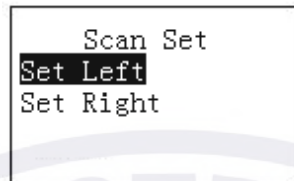

Figure 3-4
a) Select Set and then click **【ENTER】**, you can see an interface shown as in Figure 3-4.